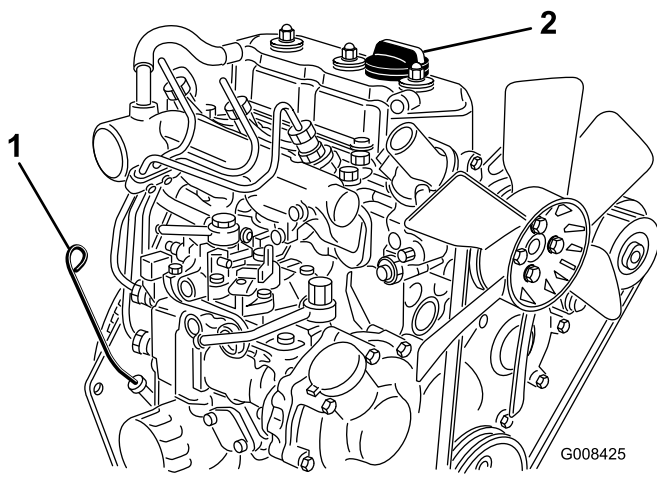

Figure 29
2. Remove the dipstick and wipe it with a clean rag (Figure 29). Push the dipstick into the tube and make sure it is seated fully. Remove the dipstick from the tube and check the level of oil. If the oil level is low, remove the filler cap from the valve cover and **slowly** add enough oil to raise the level to the Full mark on the dipstick. Add the oil slowly and check the level often during this process. **Do not overfill.**